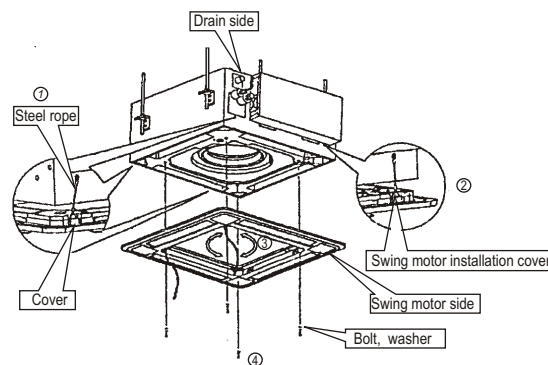

Fig.23
(2) Install the panel
- Align the swing motor on the panel to the water receiver of the body properly. (Refer to Fig.23)
- Hang the four fixed rope of the main body to the installation cover and the other three covers of the swing motor: (Refer to Fig.23)
- Install the panel on the main body with bolt ($M5 \times 16$) and washer. (Refer to Fig.23)